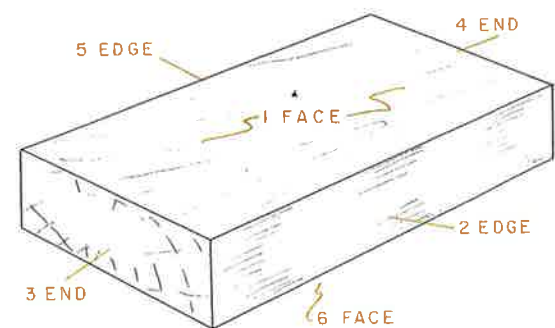

Fig. 10-1. Steps in planing a board.
rate, and smooth. All the pieces in a project will fit together properly if each part has been squared to the dimensions in the drawing. Figure 10-1 shows *by number* a sequence, or order, for the steps to be taken when you square a board.
1. Select the best surface, or face, of the board (see Fig. 10-1). If the board has not been cut to approximate length, refer to Unit 7, *Measuring and Laying Out Lumber* and to Unit 8, *Sawing Across or With the Grain of the Wood*.